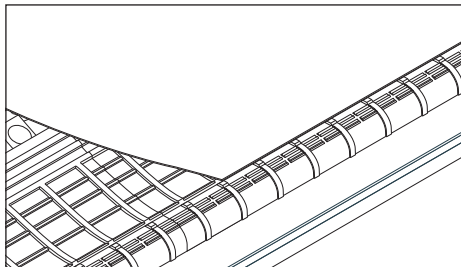

Fig. 10 – Ensure water drainage at eaves
- 3 Avoid water-traps behind the fascia board (Fig. 10).